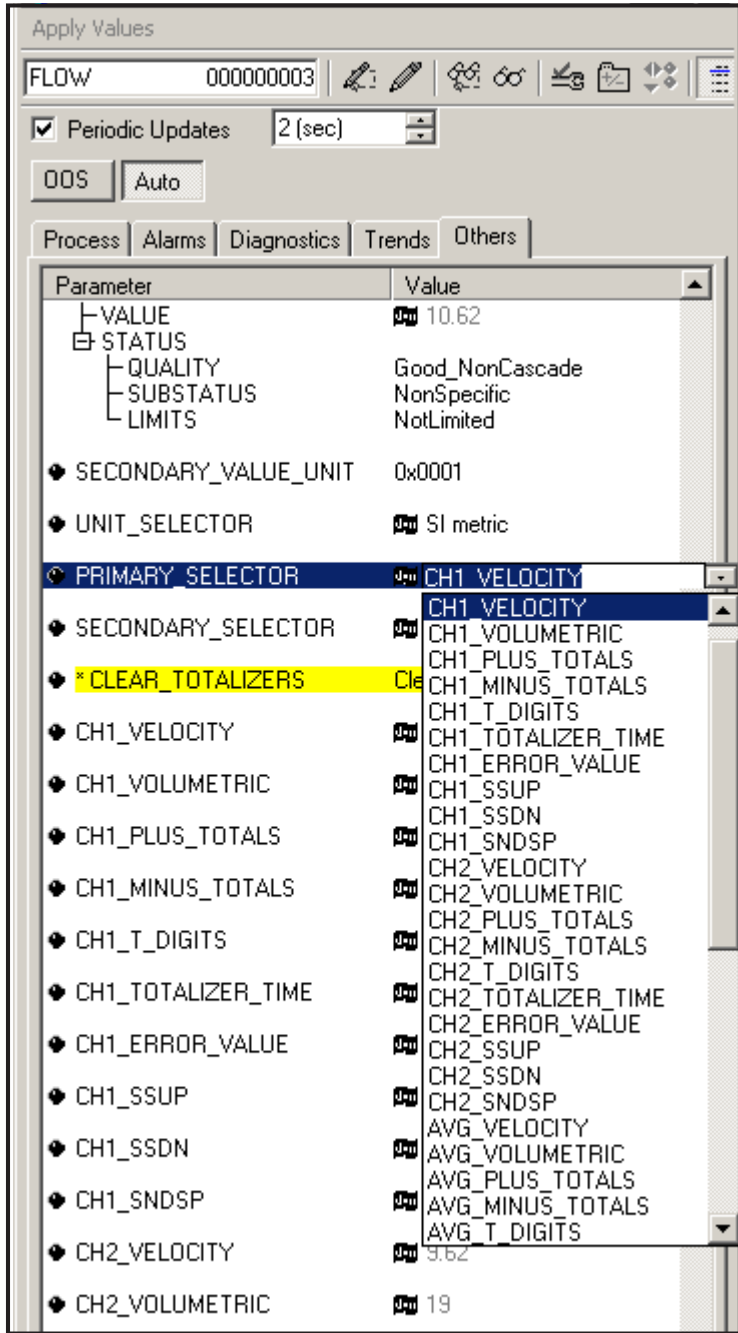

Figure 59: Primary Selector Drop Down List
2. Select the **Others** tab and open the drop down list for the PRIMARY\_SELECTOR and SECONDARY\_SELECTOR (refer to Figure 59 on page 153).
3. Choose the unit from the list (see Figure 59 on page 153).